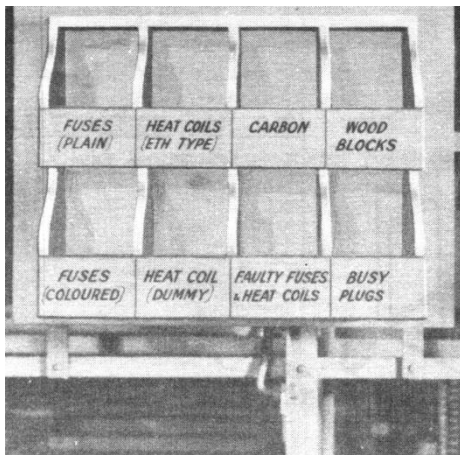

FIG. 15. M.D.F. CABINET FOR SPARE FUSES ETC.
- (i) A cabinet for spare fuses, arresters and heat coils and dummies may be fitted on M.D.F's, or adjacent walls or columns. A typical cabinet is shown in Fig. 15.